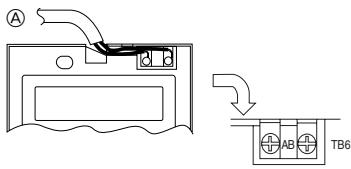

Fig. 6-10
2) Connecting procedures (Fig. 6-10)
- ① Connect the remote controller cord to the terminal block.